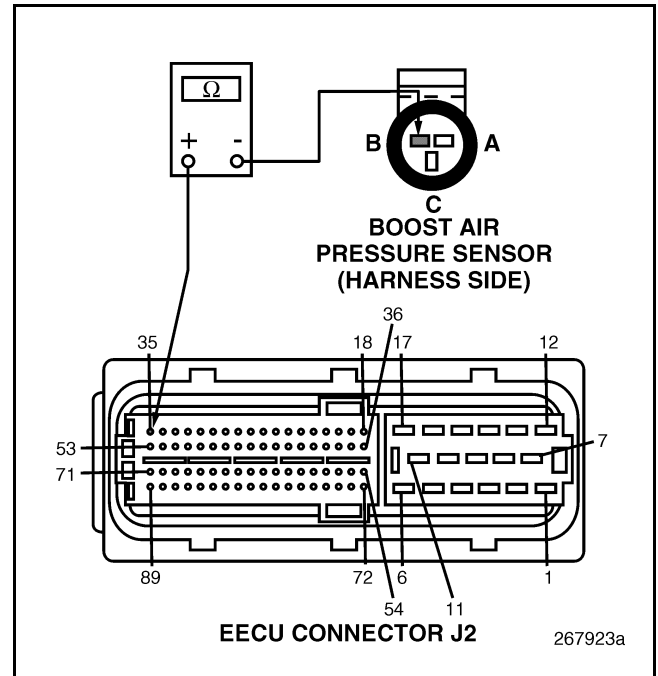

Figure 182
3. Check for continuity between Boost Air Pressure (BAP) Sensor harness connector pin B (reference voltage line) and EECU harness connector J2 pin 35 (see Figure 182).